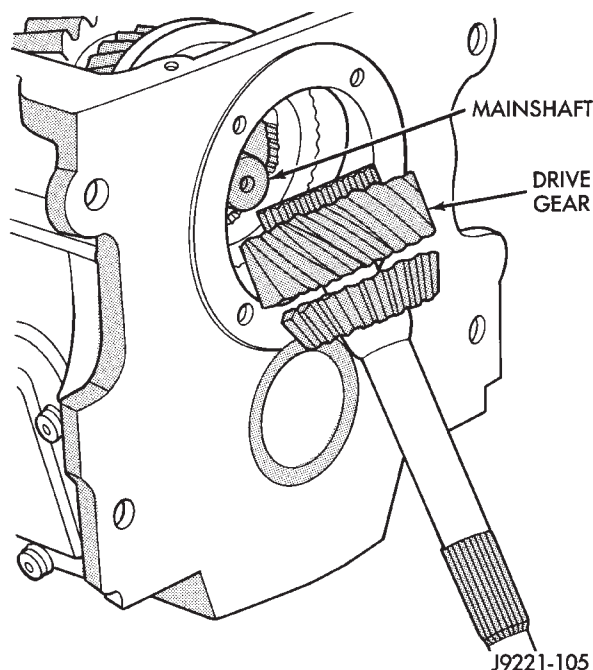

Fig. 41 Drive Gear Removal
- (1) Remove drive gear (Fig. 41).